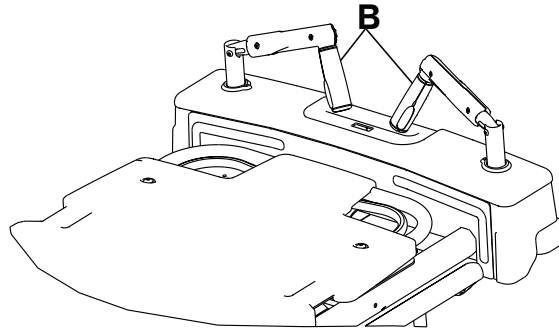

Figure 14 – Zoom handles in the stowed position
12. Stow the drive handles by lifting up on the handles. Push the handles into the stowed position (Figure 14).